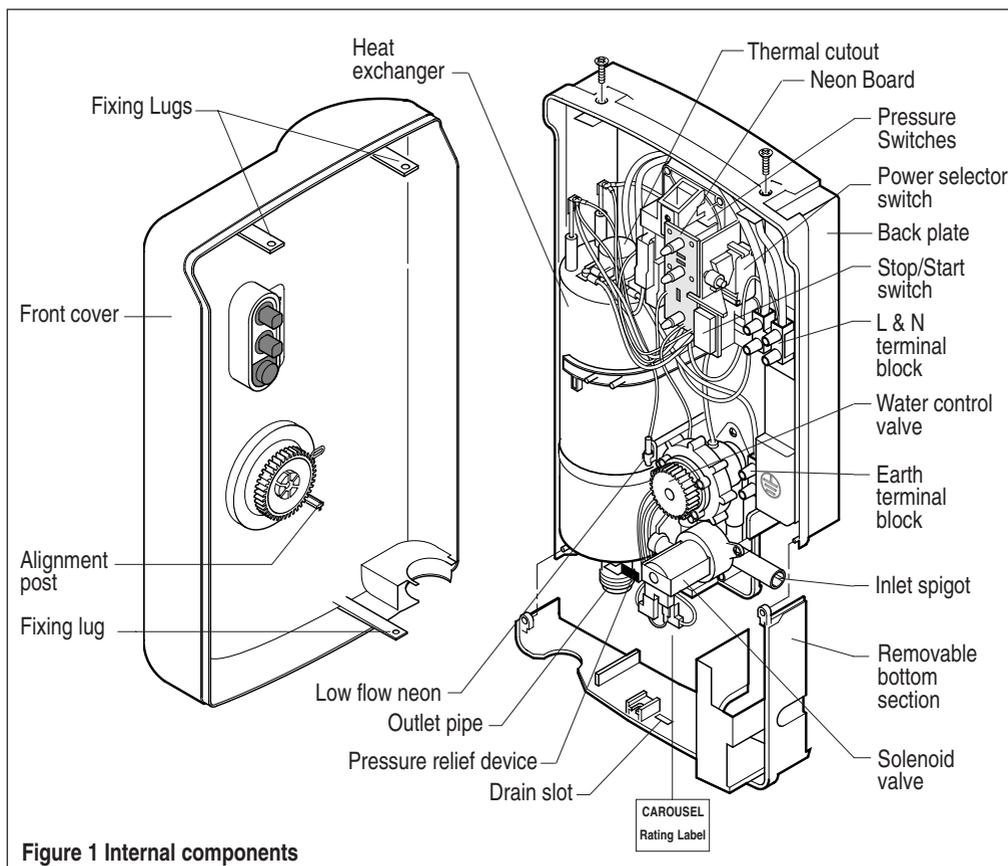

Figure 1 Internal components
**2.10 IT IS IMPORTANT TO CLEAN THE SPRAY PLATE REGULARLY, particularly in hard water areas, where this may be necessary as often as once a week. Failure to do so will affect the performance of the shower and in extreme cases may cause the pressure relief device (PRD) to operate - see Fig. 1 and Fault Finding (p15-17).**